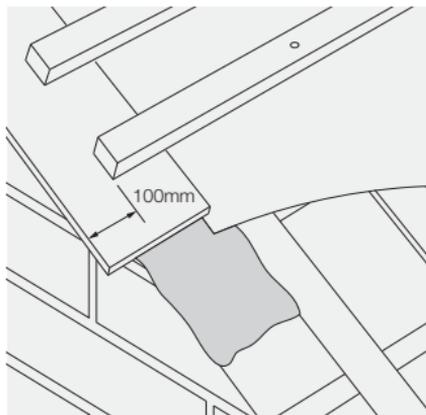

Fig. 15 – Undercloak using fibre cement strip
- 5 Strike off bedding mortar and neatly point in one operation (see Fig. 15).